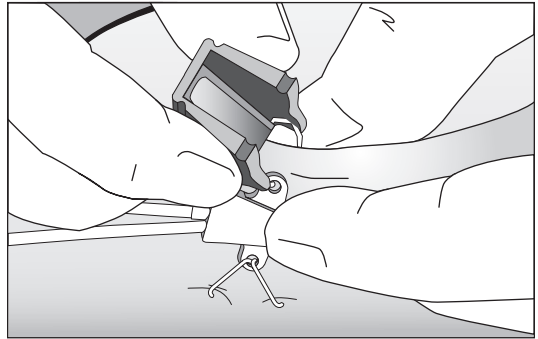

Figure 25
- Pass staple point through eye of catheter suture hub (refer to Figure 25).